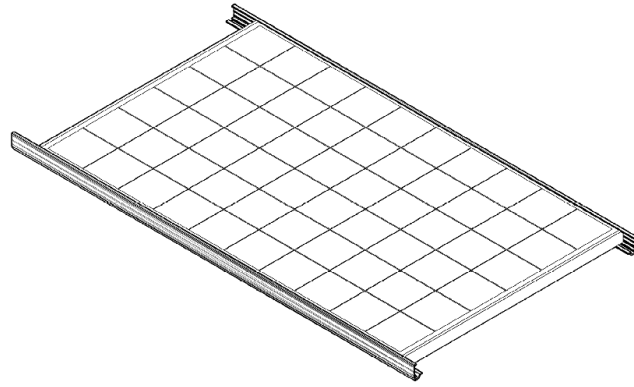

figure3
- ✓ Insertion system: Insert the whole module into the rail, show in figure3